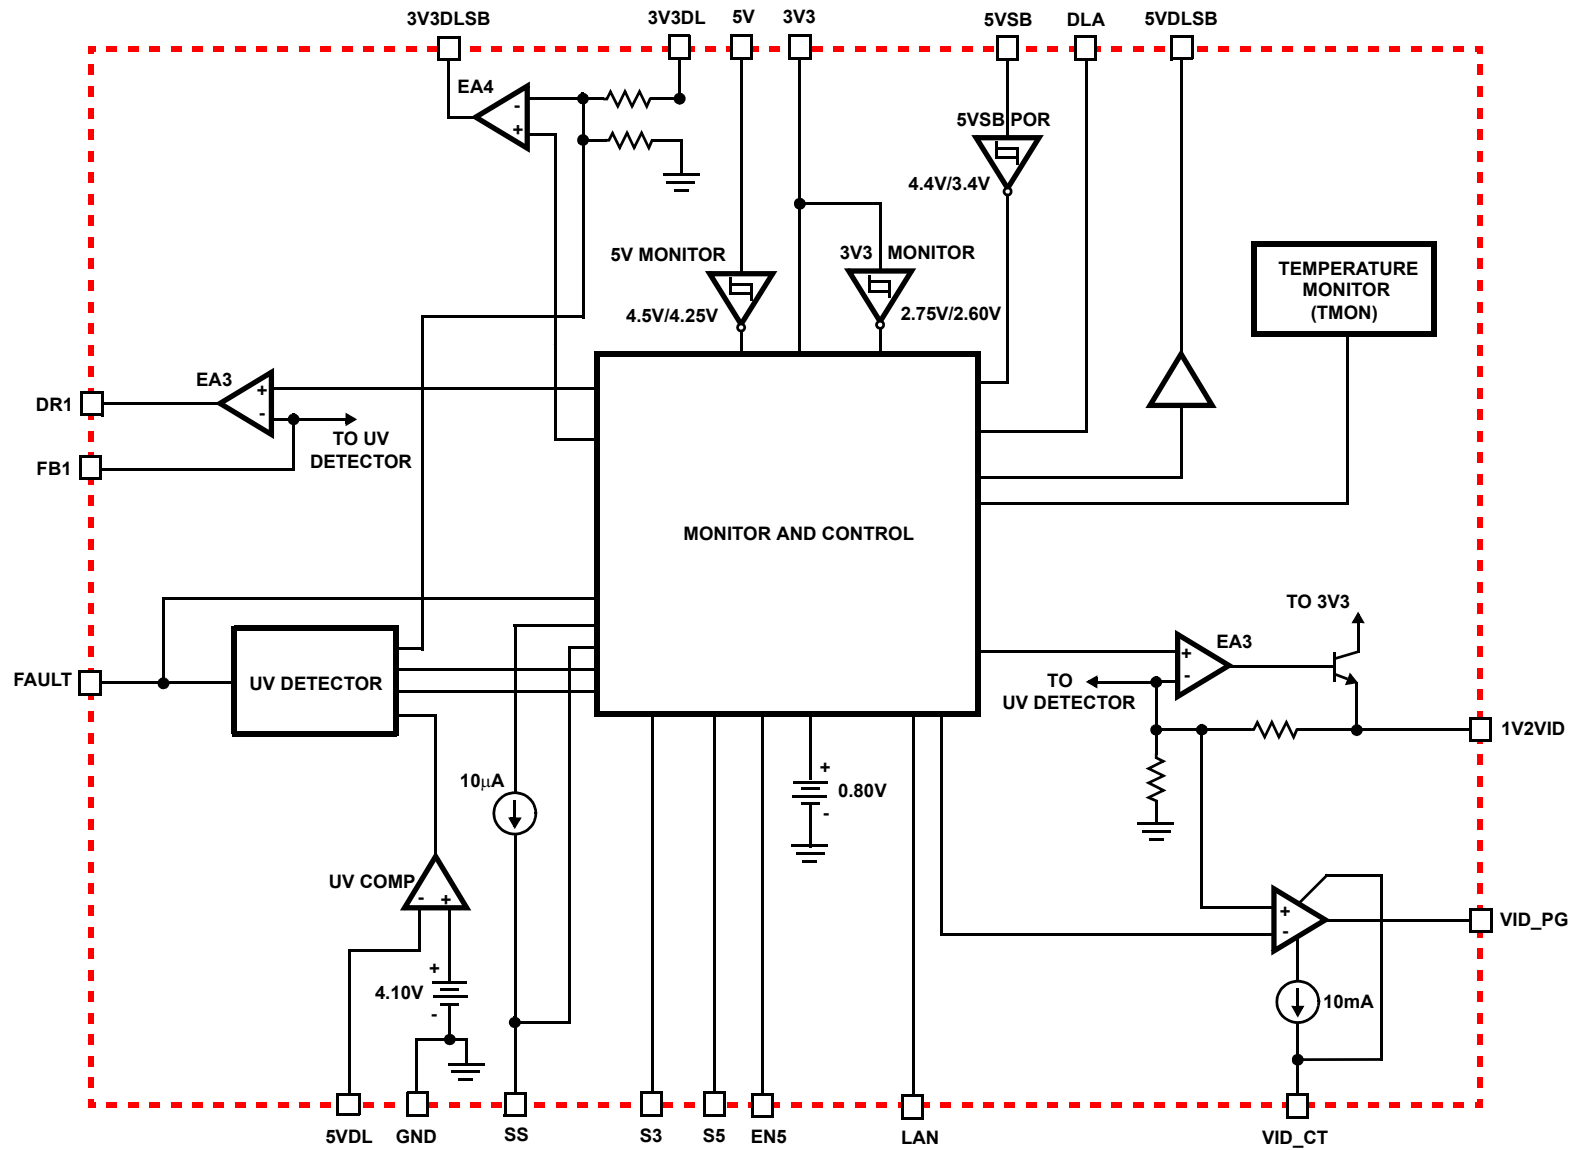

FIGURE 1.
**Electrical Specifications** Recommended Operating Conditions, Unless Otherwise Noted Refer to Figures 1, 2 and 3
**Electrical Specifications** Recommended Operating Conditions, Unless Otherwise Noted Refer to Figures 1, 2 and 3 **(Continued)**